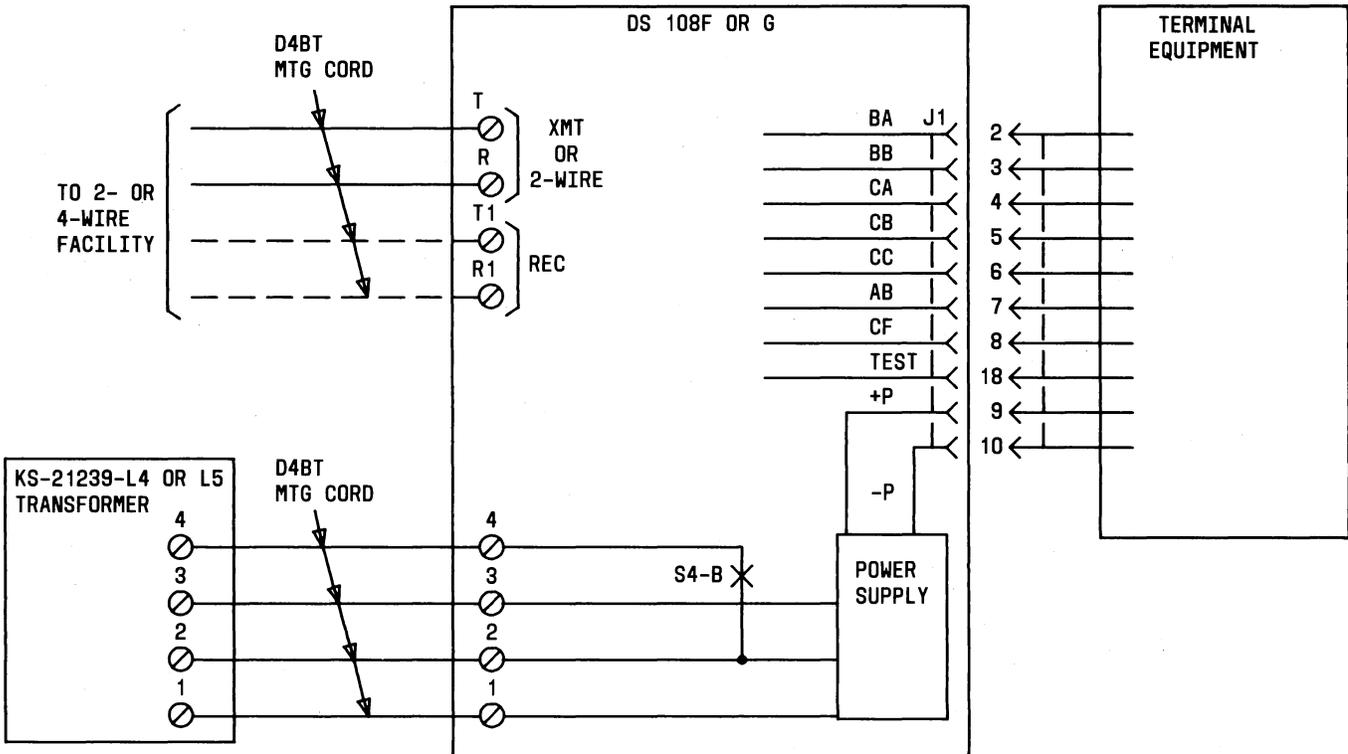

Fig. 17—DS 108F or G Connection Diagram
- Fig. 17—DS 108F or G Connection Diagram